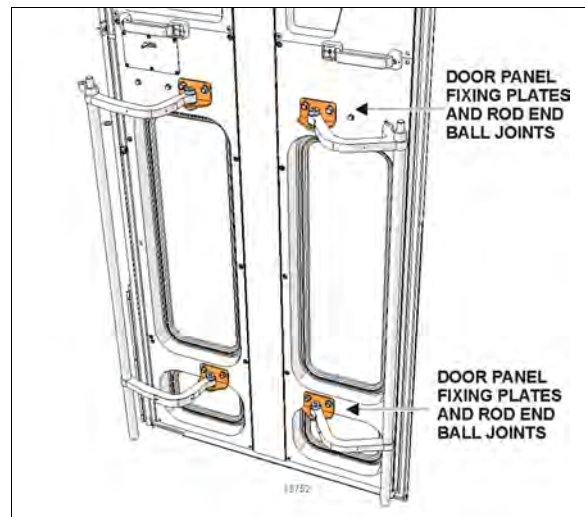

FIGURE 55: DOOR PANEL ADJUSTMENTS
- Unfasten the bolts fixing the door panel plates. See Figure 55